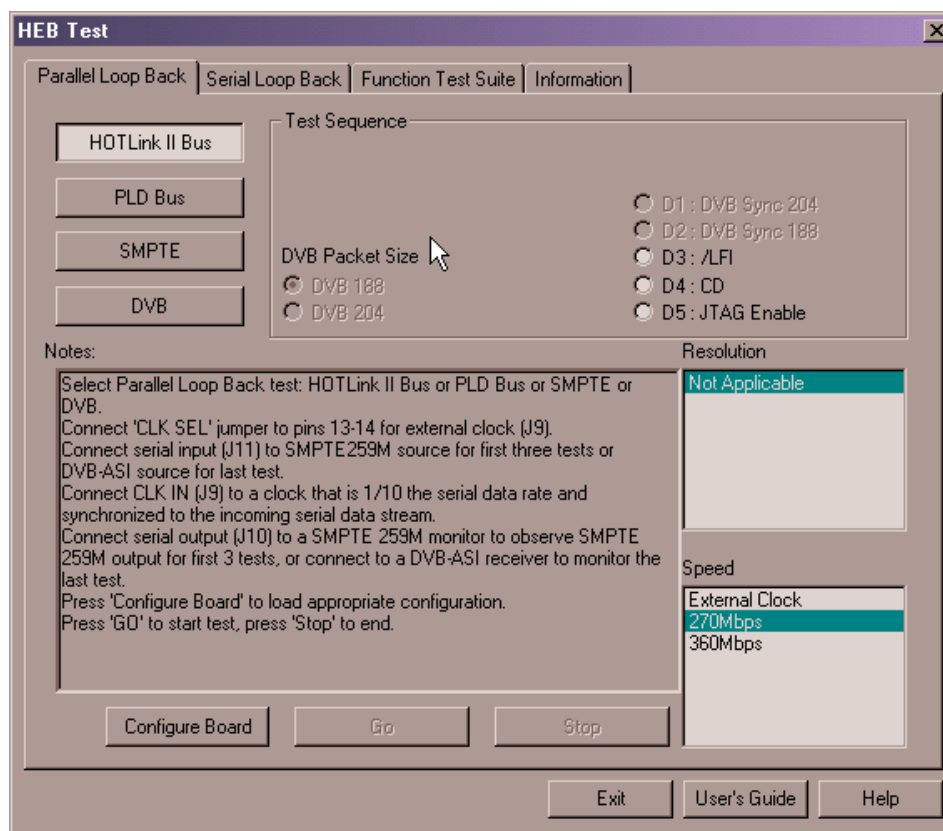

Figure 5-6.Parallel Loop Back Test Window
The GUI for the Parallel Loop Back Tests is shown in *Figure 5-6*. The different parallel loop back test modes are described as follows:
- Click on the “Parallel Loop Back” tab of the GUI test window, as shown in *Figure 5-6*. Choose the desired test by pressing the appropriate button. HOTLink II Bus test is shown in *Figure 5-6*.